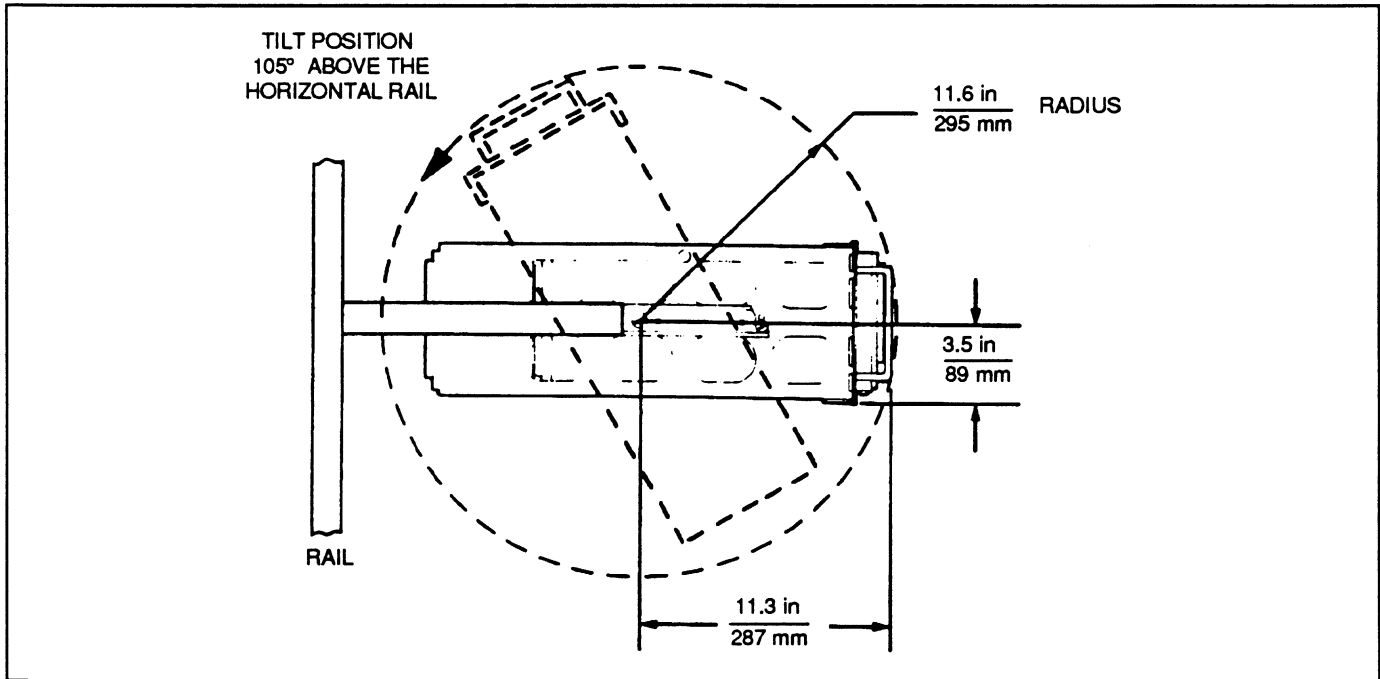
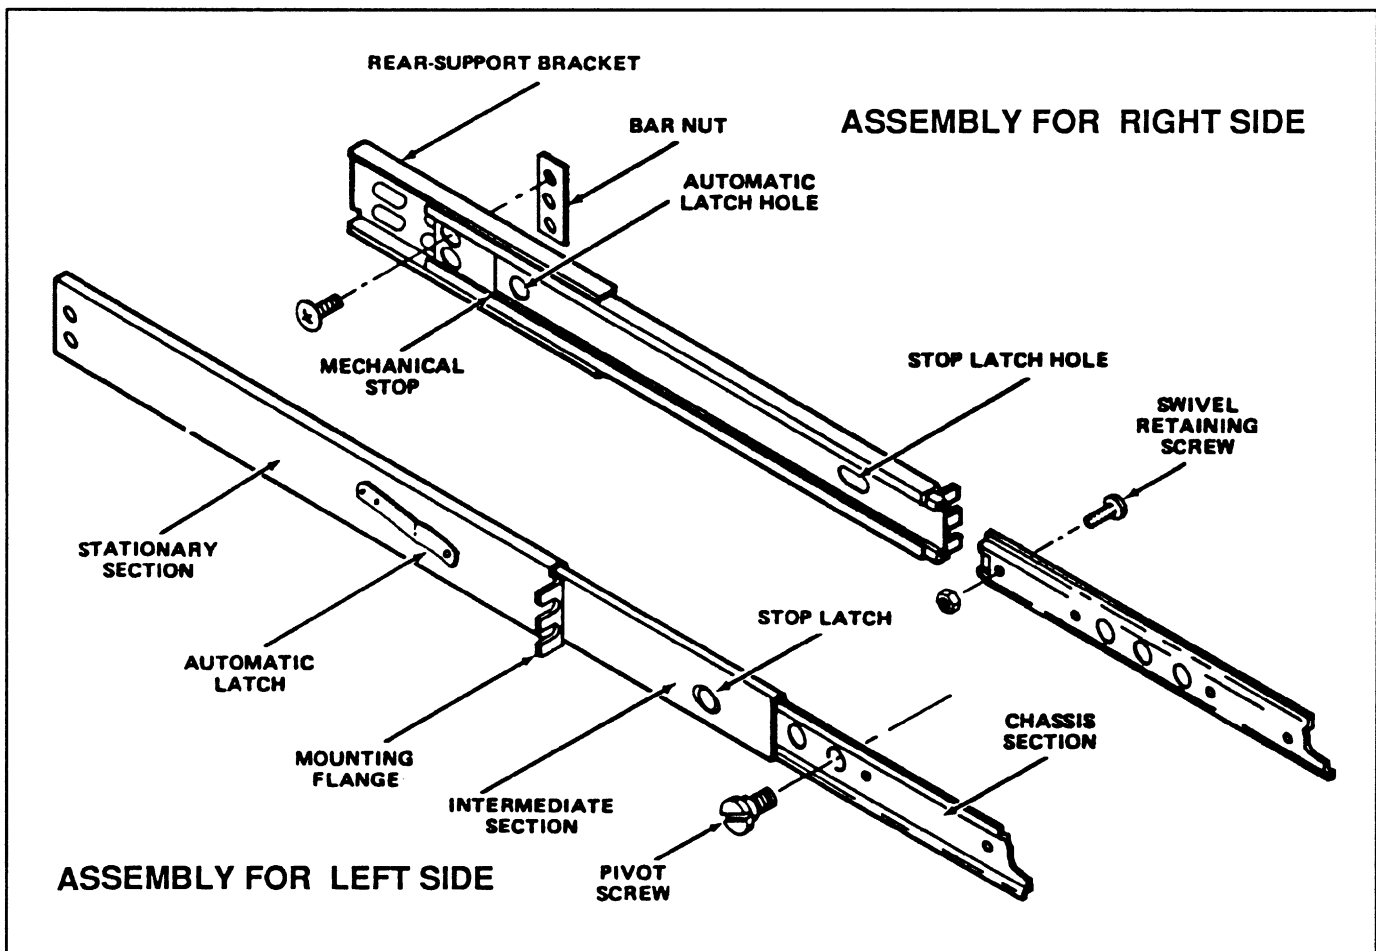

Fig. 11-5. Tilting the rack-adapted instrument.
Fig. 11-6. Slide-out track assembly.
6. If you desire to let the instrument tilt up as shown in Fig. 11-5 (for maintenance purposes), remove the swivel retaining screw from the rear of each chassis rail before performing the next step. Fig. 11-6 illustrates the location of the swivel retaining screw in the chassis rails.
The rear-support extension brackets supplied with the rack adapter chassis tracks (see Fig. 11-6) allow the rack-adapted instrument to be mounted in equipment cabinets having front-to-rear rail spacings between 14 inches and 26 inches. Depending on how the rear-support brackets are attached to the cabinet's rear rail, mounting points for the rear of the stationary track can be provided either in front of or behind the rear cabinet rail. The rear-support kit cannot be properly used with this type of installation.